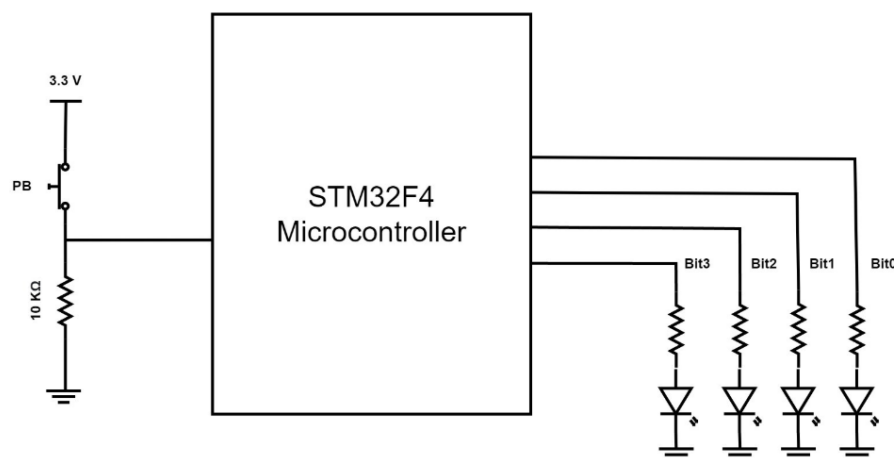

Figure 1.7: Schematic diagram
1. Connect GPIO pins as shown in Figure 1.7 :